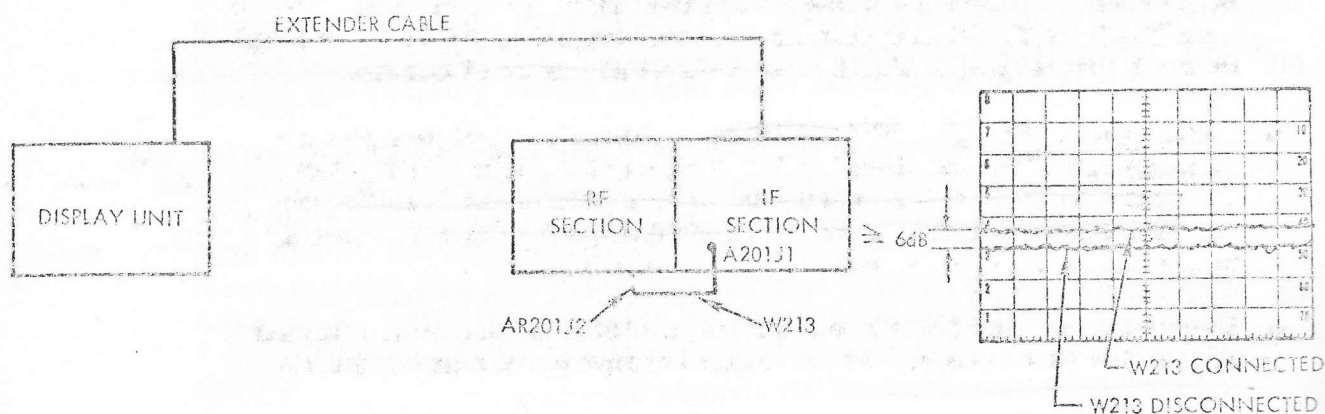

Figure 7-4. Noise Level Test Setup
7-3.2.1.2 Noise Level Check. Connect display unit and tuning unit as shown in figure 7-4. Set controls as follows:
- (1) Disconnect RF cable W213 and check for noise level of approximately -50 dB.
- (2) Connect W213 and check screen for at least 5 dB increase in noise level (see figure 7-4).